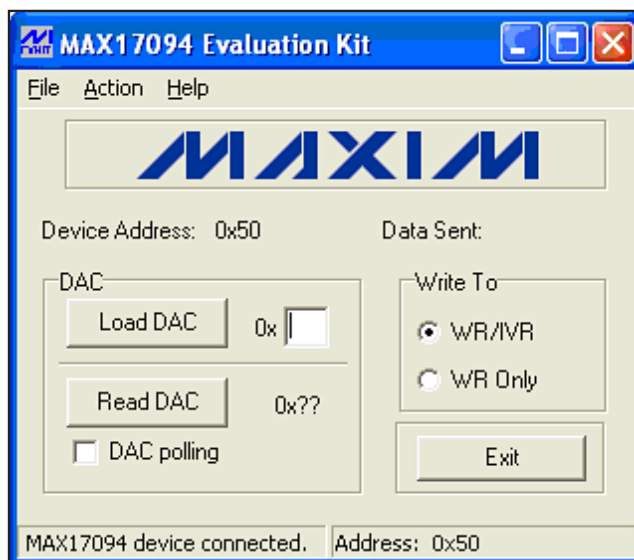
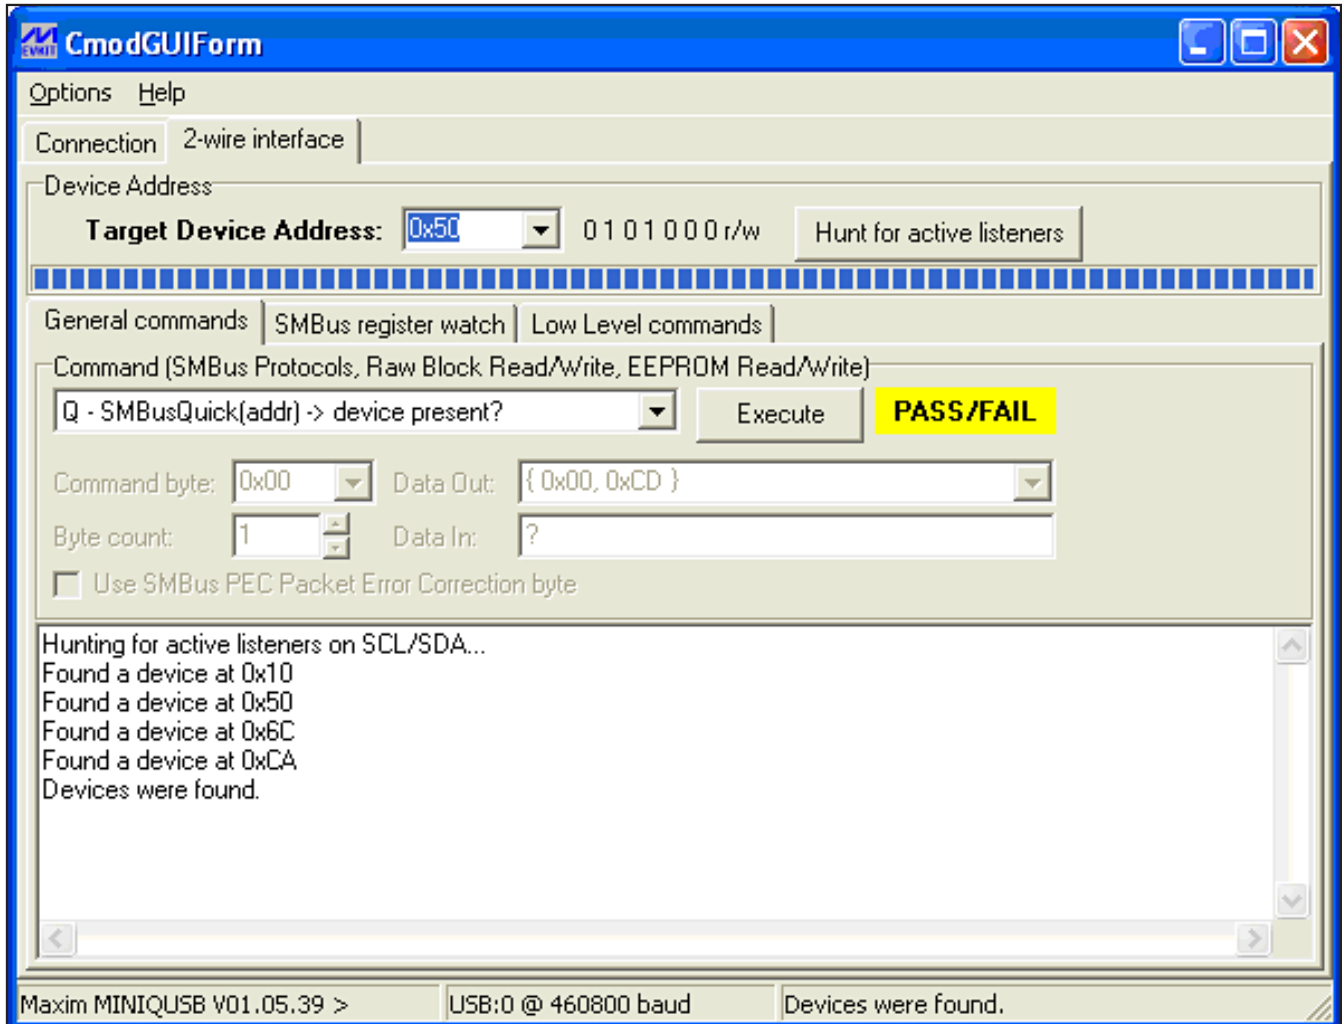

Figure 1. MAX17094 EV Kit Software Main Window
Figure 2. Command Module Interface Window
- 12) Normal device operation is verified when **MAX17094 device connected** appears in the **status bar** on the MAX17094 EV kit main window (Figure 1).
The DAC setting corresponds to a certain sink-current level, which in turn corresponds to a specific VCOM voltage. With the MAX17094 EV kit software, the device's 7-bit internal DAC is configured by entering an appropriate DAC setting into the **Load DAC** edit box. The DAC setting can be set from 0x00 (VCOM_{MIM}) to 0x7F (VCOM_{MAX}). The DAC setting is written to the device by pressing the **Load DAC** button (Figure 1).
There are two methods for communicating with the MAX17094: through the MAX17094 EV kit software main window (Figure 1), or through the interface window available by selecting the **Action | Interface Diagnostic Window** menu item from the menu bar. The Maxim command module interface window (Figure 2) includes a **2-wire interface** tab that allows for execution of the **SMBusSendByte()**, **SMBusReceiveByte()**, and **SMBusQuick()** commands. See Table 6 for details regarding SMBus commands.
The **Command byte** and **Data Out** combo boxes accept numeric data in binary, decimal, or hexadecimal. Hexadecimal numbers should be prefixed by \$ or 0x. Binary numbers must be exactly eight digits. See Figure 2 for an illustration of this tool.